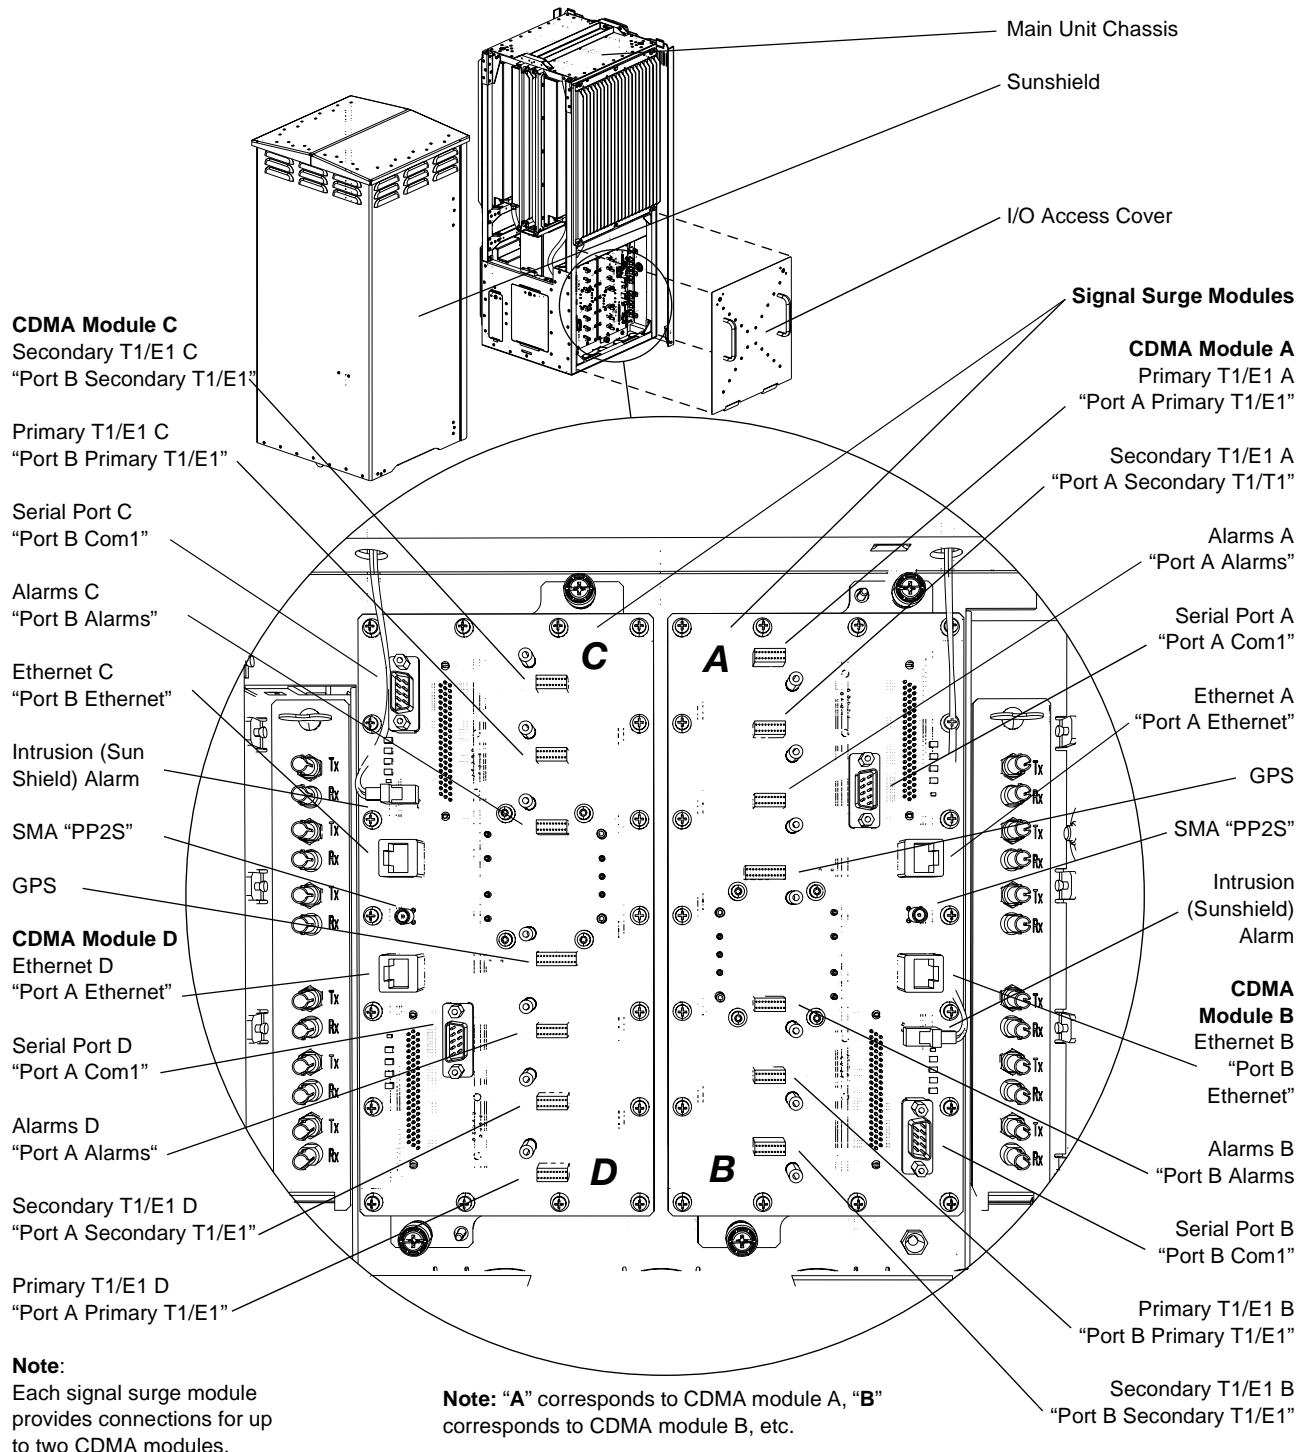

Figure 4–2 Signal Surge Modules
You install the daughter cards on the main unit signal surge modules. Figure 4–2 shows the location of the signal surge modules and the installation locations for the daughter cards. Some configurations will use only one signal surge module.
1. To remove the I/O access cover from the main chassis, turn each of the two screws (one at each top corner of the access cover) until the catch releases. For the location of the access cover, see Figure 4–2. Use the handles on the access cover to lift it away from the chassis.
4. Connect the daughter cards at the locations shown in Figure 4–2.
You can view faults and the current state of each sensor input and output relay at both the RBS and the BSM. Figure 4–3 on page 4-7 shows an example of alarm input sensors and output relays for a single alarms card. The figure also shows the specifications for the connections.